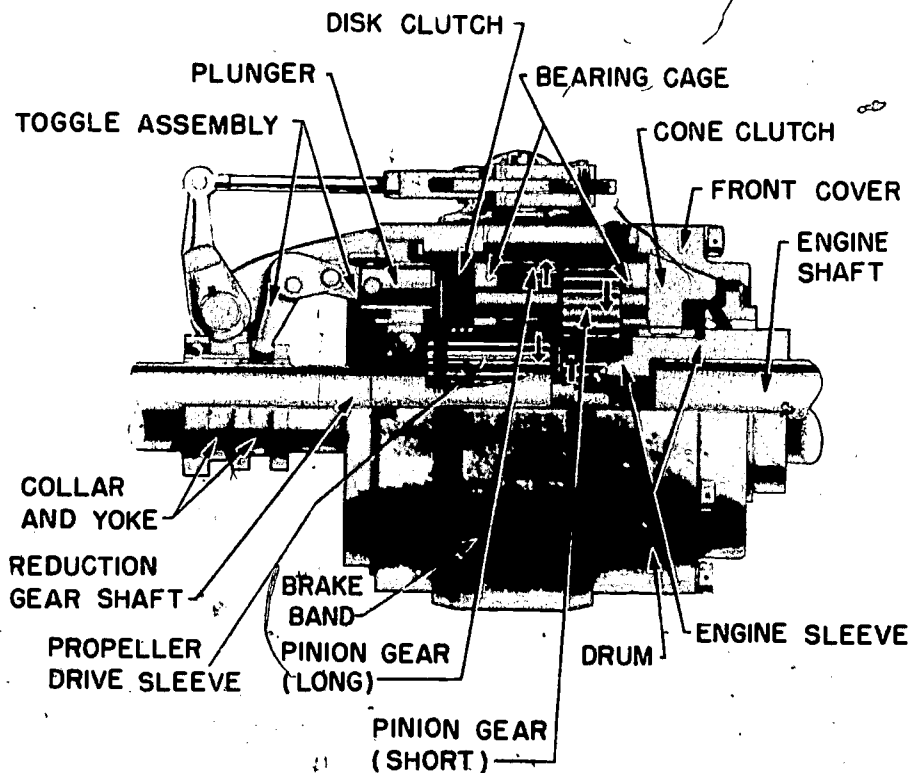

Figure 4-13.—Cutaway view of Joe's clutch and reverse gear.
**JOE'S CLUTCH AND REVERSE GEAR.**—A typical gear mechanism found on many power boats is Joe's clutch and reverse gear, shown in figure 4-13. The drive from the engine crankshaft is taken into the clutch and reverse gear housing by an extension of the crankshaft drive gear. The crankshaft rotation is transmitted to the reduction gear shaft through the clutch and the reverse gear unit.